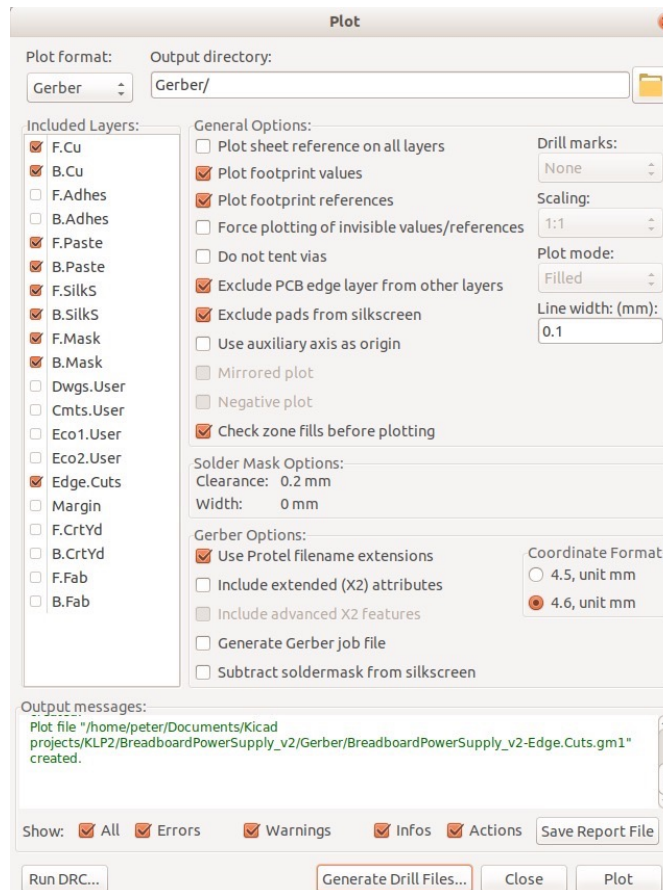

Figure 31.1: The Plot window, where you create the individual layer files.
2. PCBWay provides information about which Gerber files to produce and the various settings that you will need to enable. Other manufacturers should have similar information available on their website. There are two sets of files that you must create. The first set contains individual files for each layer of the PCB. The second set contains a file for the drill so that the manufacturer can know how to drill the holes and vias. You can see the main Plot window in Figure 31.1. If you are uploading your Gerber to PCBWay, you can set up your Plot window as in this example. Before you click on the Plot button to generate the files, click on the folder button on the top right corner of the window to change the output directory to a new directory. I usually name directories that contain Gerber files 'Gerber'. Once you set the output directory, click on the Plot button. In the output messages text area, you will see green text indicating that the files were created. Do not close this window yet!